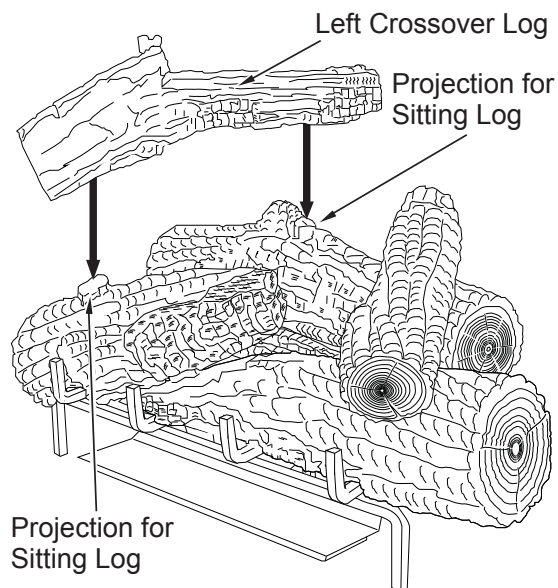

Figure 55 - Installing Left Crossover Log
6. Place the left crossover log onto the rear log and the left front log as shown in **Figure 55**. The left crossover log has notches in the bottom that will line up with the projections on the rear log and the left front log.